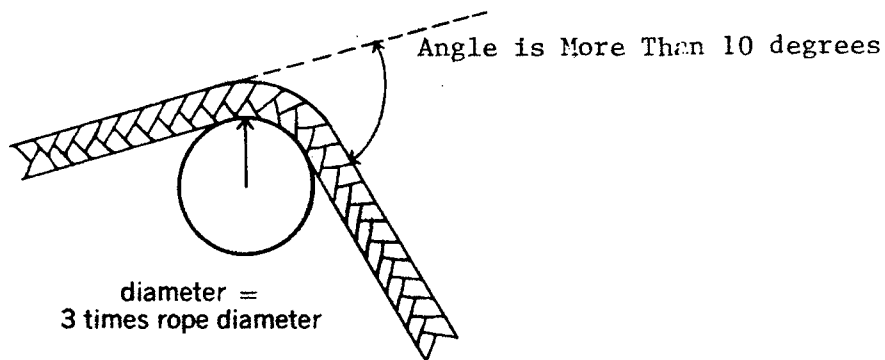

Fig. 2-26 Mooring line around a bitt
2. Usage. Where a rope bends more than 10 degrees around bitts or chocks or is bending across any surface, the diameter of the surface should be at least three times the diameter of the rope. (See **Figure 2-26**.)